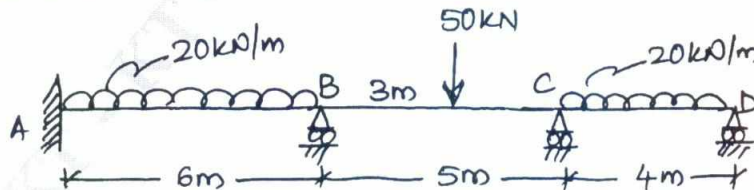

Fig.Q.3
- 3 Analyze and draw BMD for the continuous beam shown in Fig.Q.3 by moment distribution method if support 'B' sinks by 30mm and support 'C' sinks by 20mm. Take $EI = 24,000 \text{ kNm}^2$. (16 Marks)